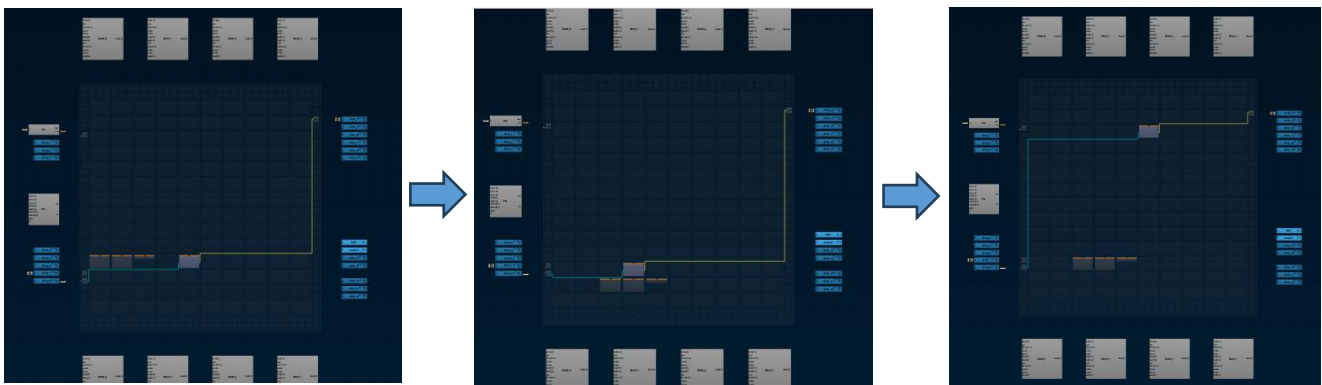

Figure 9. Showing the Results of Applying the Set of Constraints on the Floorplan (Before -> After)
10. See how the placement constraints commands affect the CLBs' placements in the Floorplan (Figure 9).